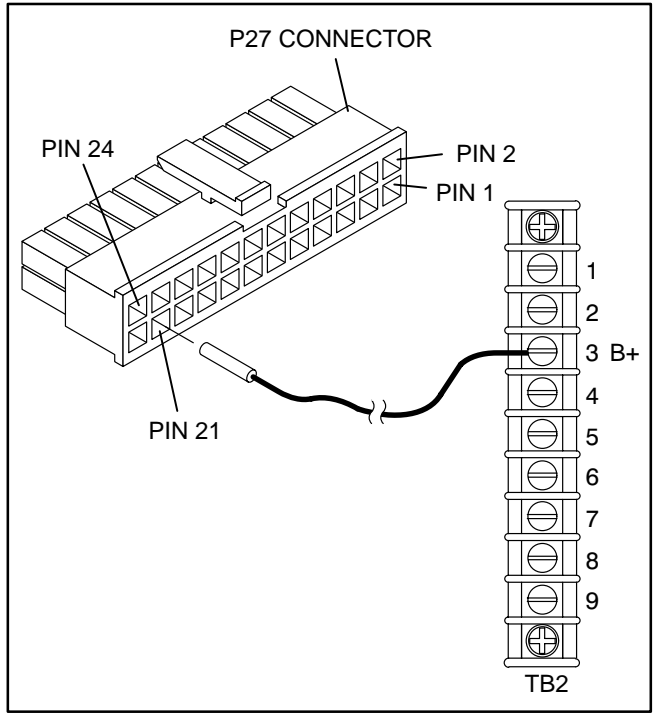

FIGURE 3. BATTERY LEAD INSTALLATION
11. Install the battery lead (see Figure 3):